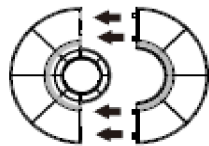

FIG. 1
2. hook the two parts of the base together (Fig. 1);